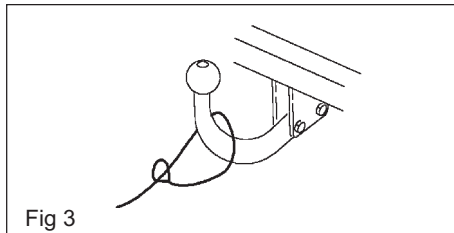

Fig 3
**Fixed ball** - Loop the cable around the neck of the towball. If you fit the cable like this, use a single loop only. (See Figs. 3 and 4).